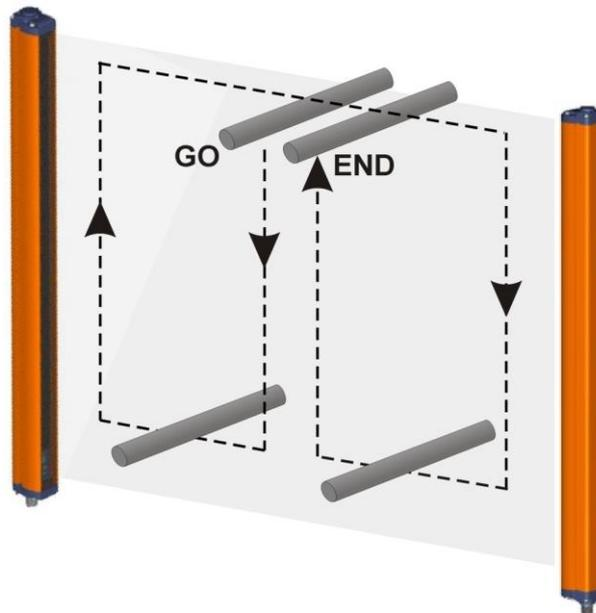

Fig 20 - Path of the test piece
- ESPE remains blocked (➡ lit RED) intercepting the beams along the protected area using the specific test piece, following the scheme in **Fig 20 - page 25**.